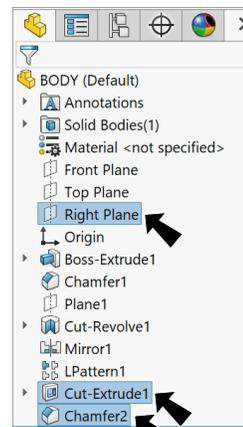

Fig. 37
Step 1. **Ctrl click** **Right Plane** , **Cut-Extrude1** and **Chamfer2** feature to select plane and features, **Fig. 37**.